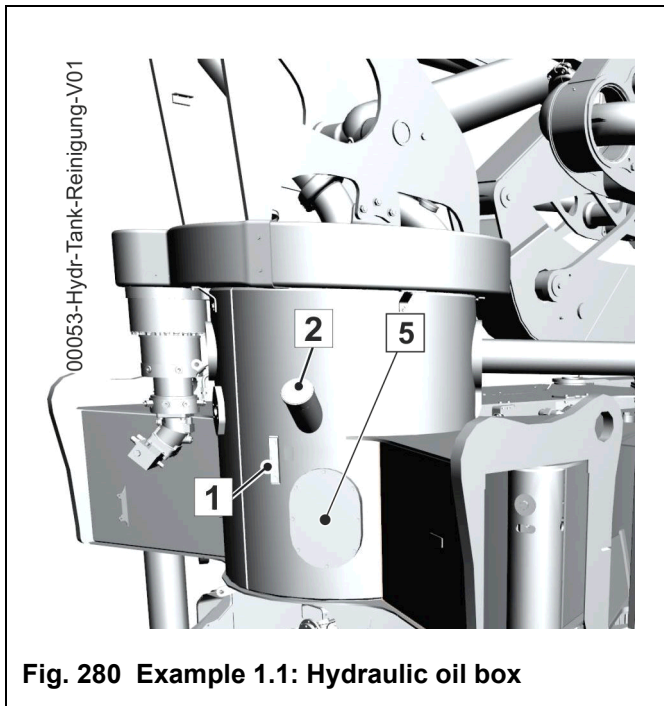
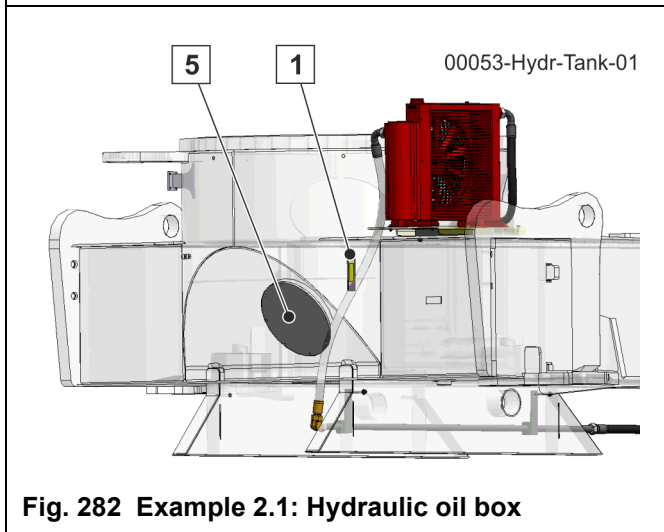

Fig. 280 Example 1.1: Hydraulic oil box
Fig. 282 Example 2.1: Hydraulic oil box
The reservoir for the hydraulic oil is equipped with a level indicator e.g. (1) (**Fig. 280**)/(**Fig. 282**).
If necessary, top up the hydraulic oil via the filler cap (2) (**Fig. 280**)/(**Fig. 283**).
<p>00053-EF-V02</p> <p>Fig. 286 Ventilation filter</p>	<p>Positions (Fig. 280) - (Fig. 285):</p> <ol style="list-style-type: none"> 1. Level indicator 2. Filler cap 3. Ventilation filter installation positions 4. Valve for the venting function 5. Cleaning cover <p>Ventilation filter (Fig. 286):</p> <ol style="list-style-type: none"> 6. Filter element of the ventilation filter 7. Ventilation filter pressure gauge